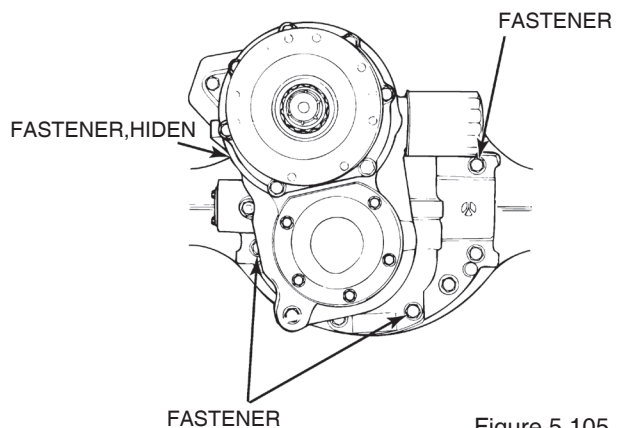

Figure 5.105
10. Carefully push the differential in the position. Alternately tighten the four fasteners two or three turns. Figure 5.105.